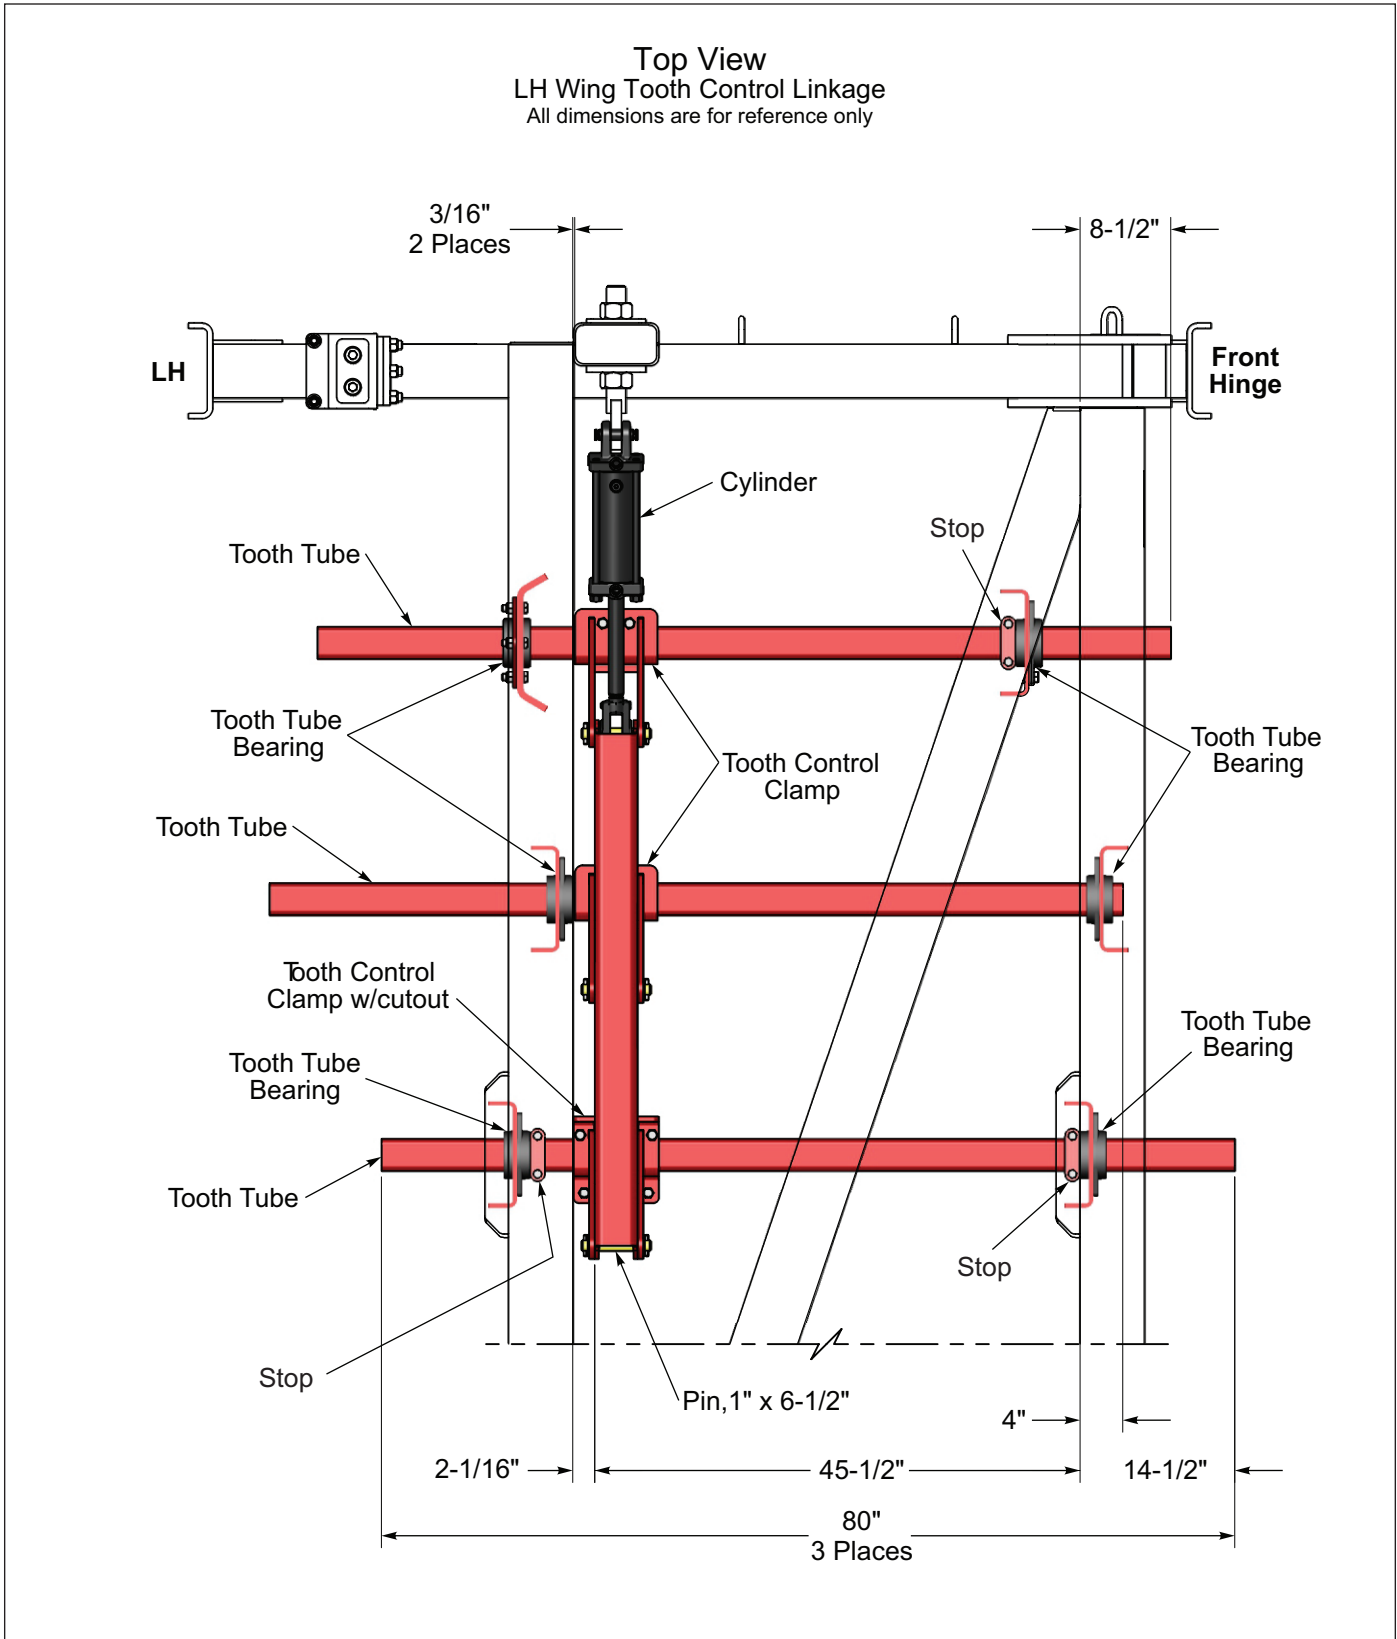

Figure 2-55: Left Hand Wing Tooth Control Linkage
2. Position Tooth Tubes in the proper lateral position to the wing frame before continuing. See **Figures 2-55 and 2-56**.
Tighten hardware after positions of clamps and tube have been verified. **See Figure 2-55.**